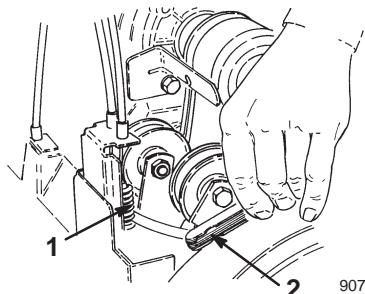

Figure 29
5. Hold the lever and insert a 0.010 in. (0.25 mm) feeler gauge between a coil in the center of the spring (Fig. 29).